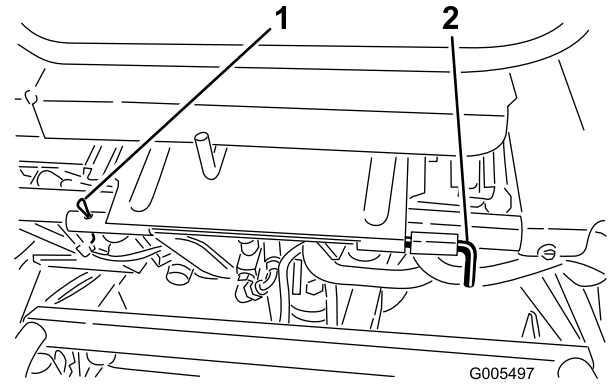

Figure 9
8. Install the seat assembly in the operating position (Figure 9.). Install the seat pivot rod and roll pin.